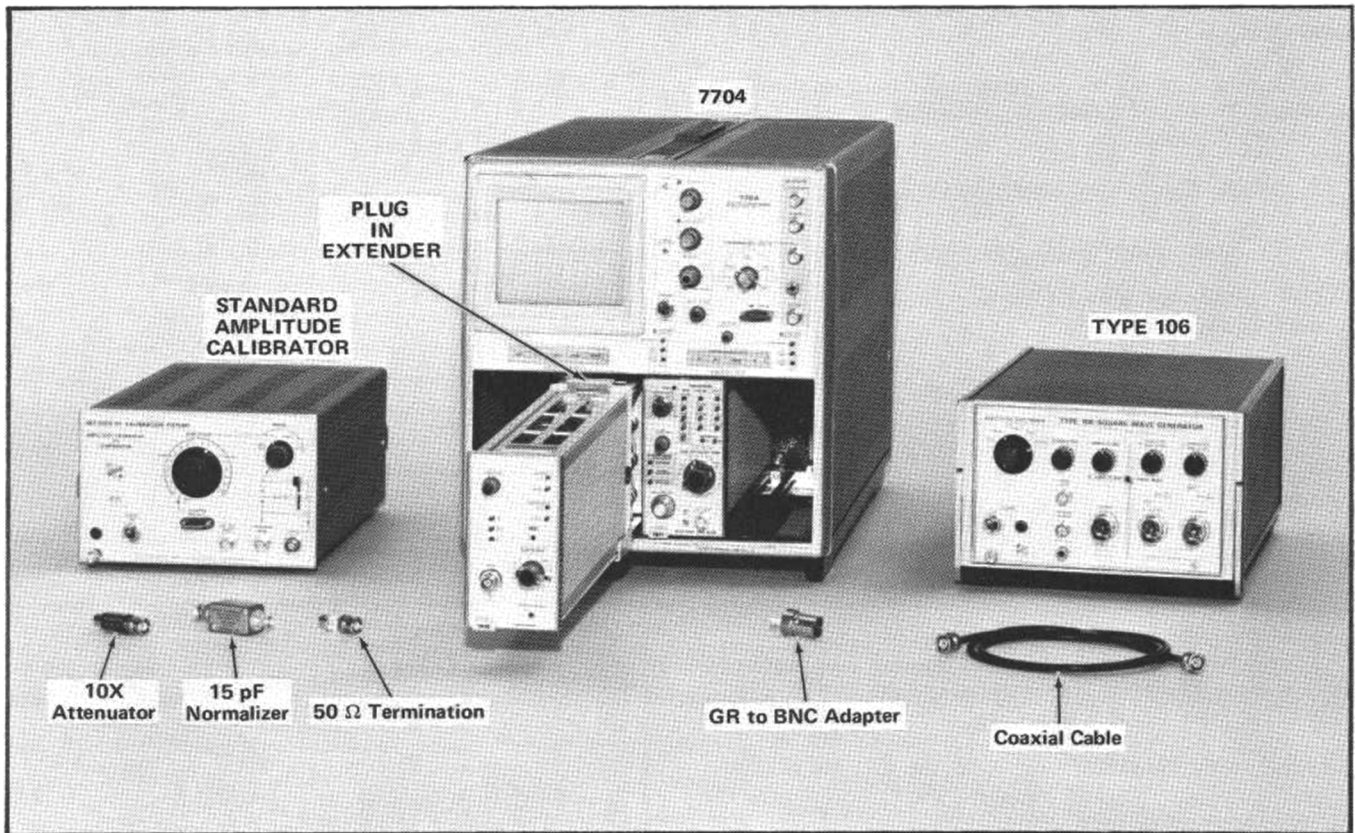

Fig. 5-1. Test equipment required for steps 8 through 12.
- a. Test Equipment is shown in Fig. 5-1.